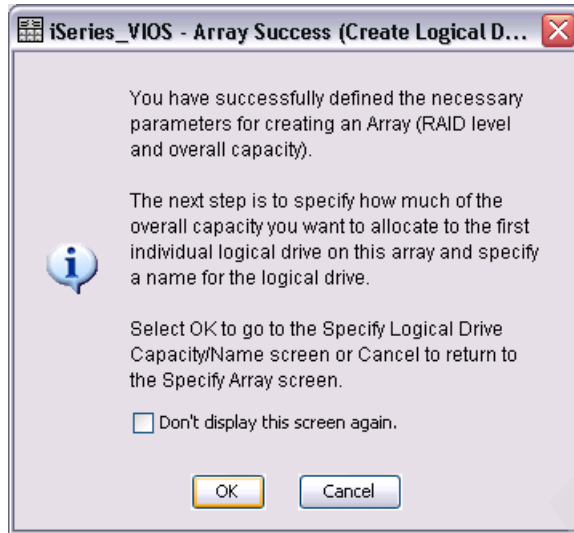

Figure 7-54 DS Storage Manager Array Success dialog
6. We select **OK** in the Array Success dialog, as shown in Figure 7-54, to continue with creating logical drives.